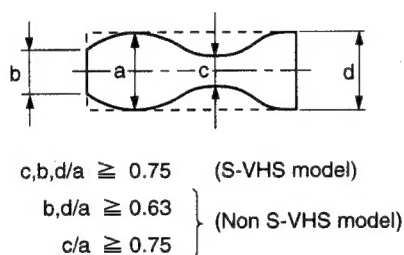

Fig. 2-7-7
3. Make sure the video envelope waveform (in its maximum output) meets the specification shown in Fig. 2-7-7. Again make sure the same by playing back the SP mode 3 MHz video signal on the alignment tape. If not satisfied, adjust as follows:
1. Make recordings and playback the tapes E-180 and E-240 in SP and LP modes and make sure the playback output envelope meets the specifications shown in Fig. 2-7-7.